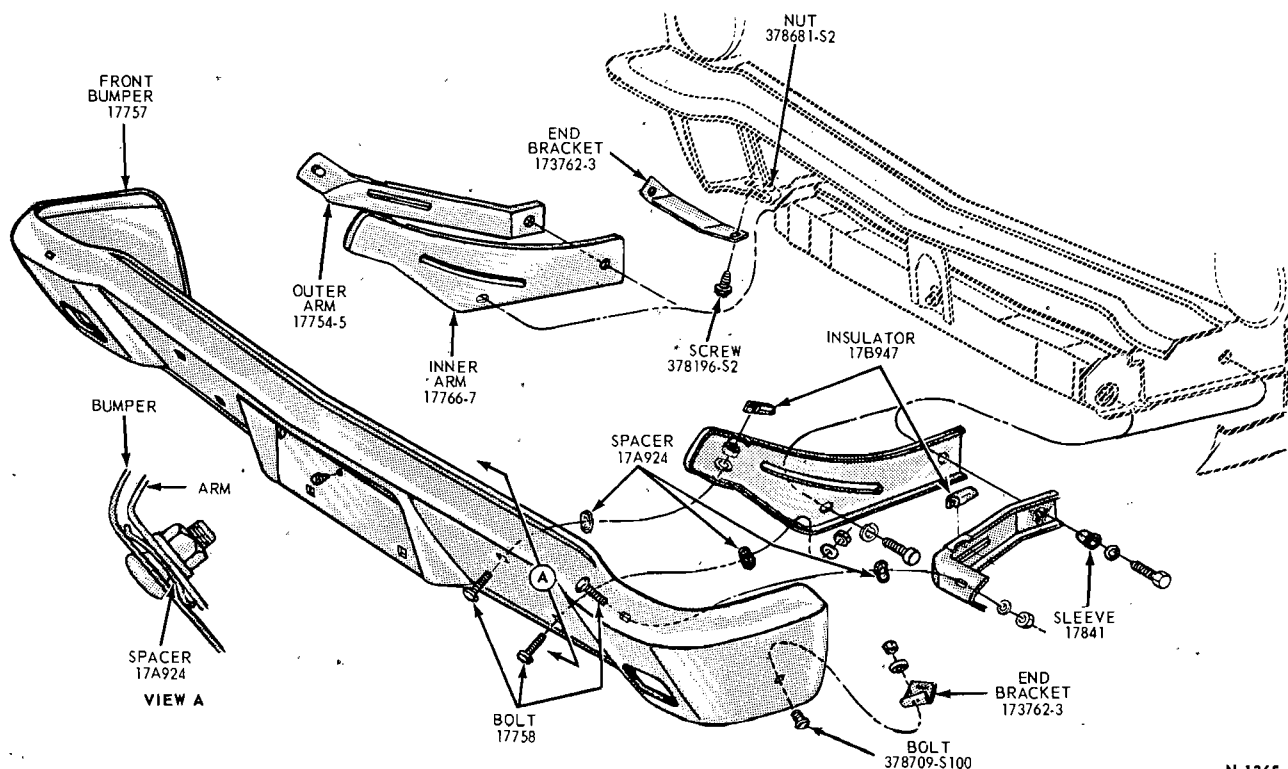

FIG. 9—Mercury Intermediate Front Bumper Installation
2. Remove the right and left end bracket to fender attaching bolts, if so equipped (Figs. 9, 10 and 11).
3. Remove the bumper left and right inner and outer arm-to-frame side rail retaining bolts and remove the bumper assembly. (Figs. 9, 10, and 11).
3. Install the bumper inner and outer arms on the new bumper using spacers and washers as shown in Figs. 9, 10 and 11. Then, install the end brackets on the bumper, if so equipped.